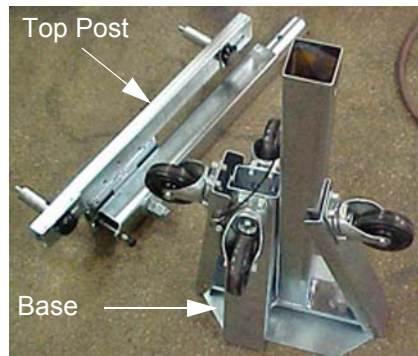
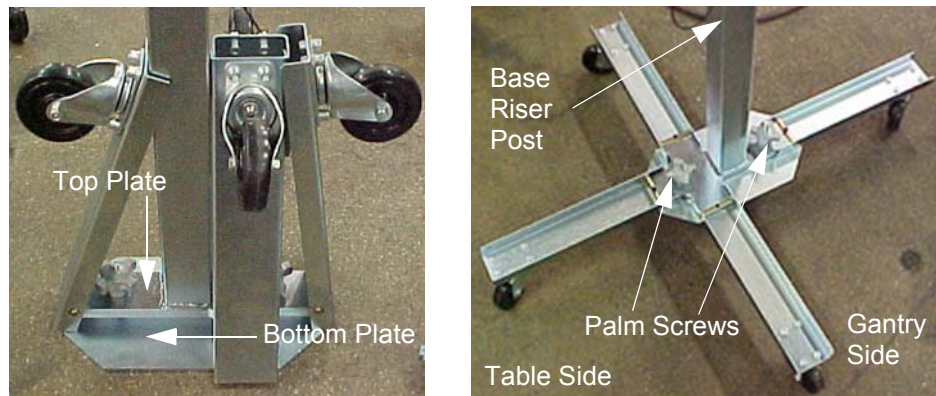

Figure A-6 Front Cover Dolly in Storage Mode
Figure A-7 Front Cover Dolly Base Assembly
- 1.) Arrange dolly sections for assembly. The base and post can be assembled only one way. Refer to Figure A-6 and Figure A-7.
- The base uses two (2) palm screws to clamp the four (4) legs in the open (usage) mode.
Note: Lifting the base by the riser post while leaving the castors on the floor eases palm screw tightening (see Figure A-7).